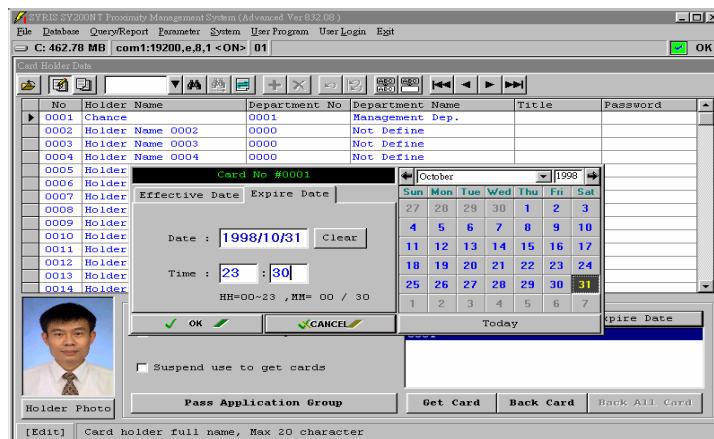

Fig.7-8 Card Expire Date Setting
3. Click "Expire Date", wait screen display, as Fig.7-8.